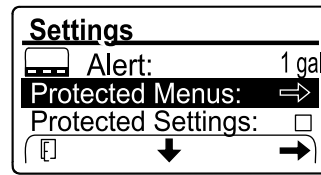

Figure 108
- Enter the PIN code for the PROTECTED MENUS option (Figure 108), refer to Accessing Protected Menus \(page 23\).